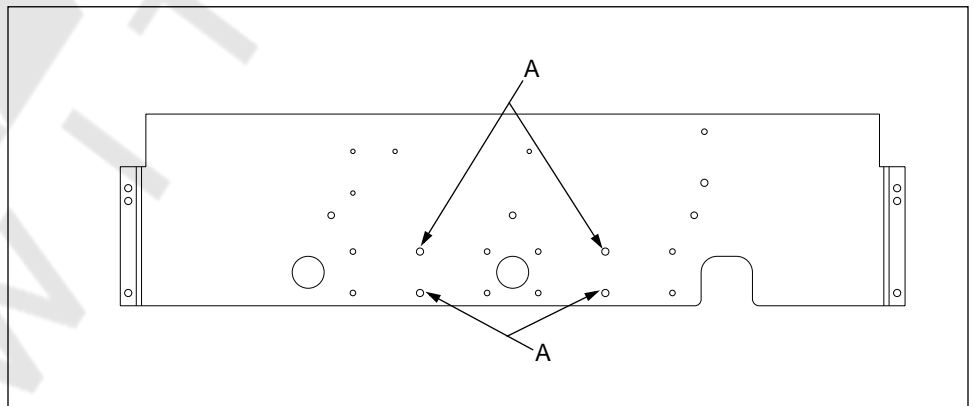

Figure 17: Screw holes for 34 inch (865 mm) sections
*NOTE: Extra screws are required for 34 inch (865 mm) sections. Holes for these screws are indicated by "A" in Figure 17.*